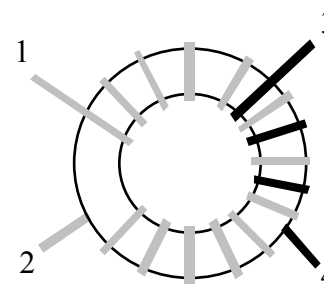

Figure 6-25
- T1 is wound on an FT37-43 ferrite core (dark gray) and has windings similar to those shown in Figure 6-25. The 1-2 winding is 9 turns of red enamel wire (10", 25 cm). The 3-4 winding is 3 turns of green enamel wire (5", 13 cm). (The drawing shows more than 9 turns on the larger winding.)